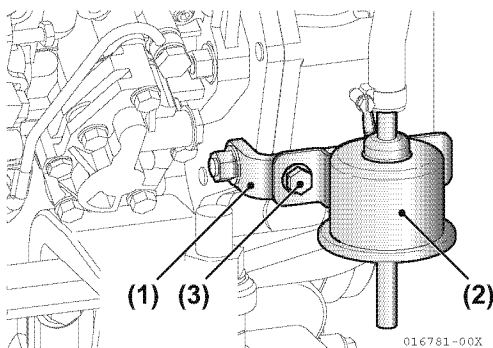

Figure 5-197
- 70. Install the fuel feed pump and bracket (Figure 5-197) to the cylinder block by bolt.